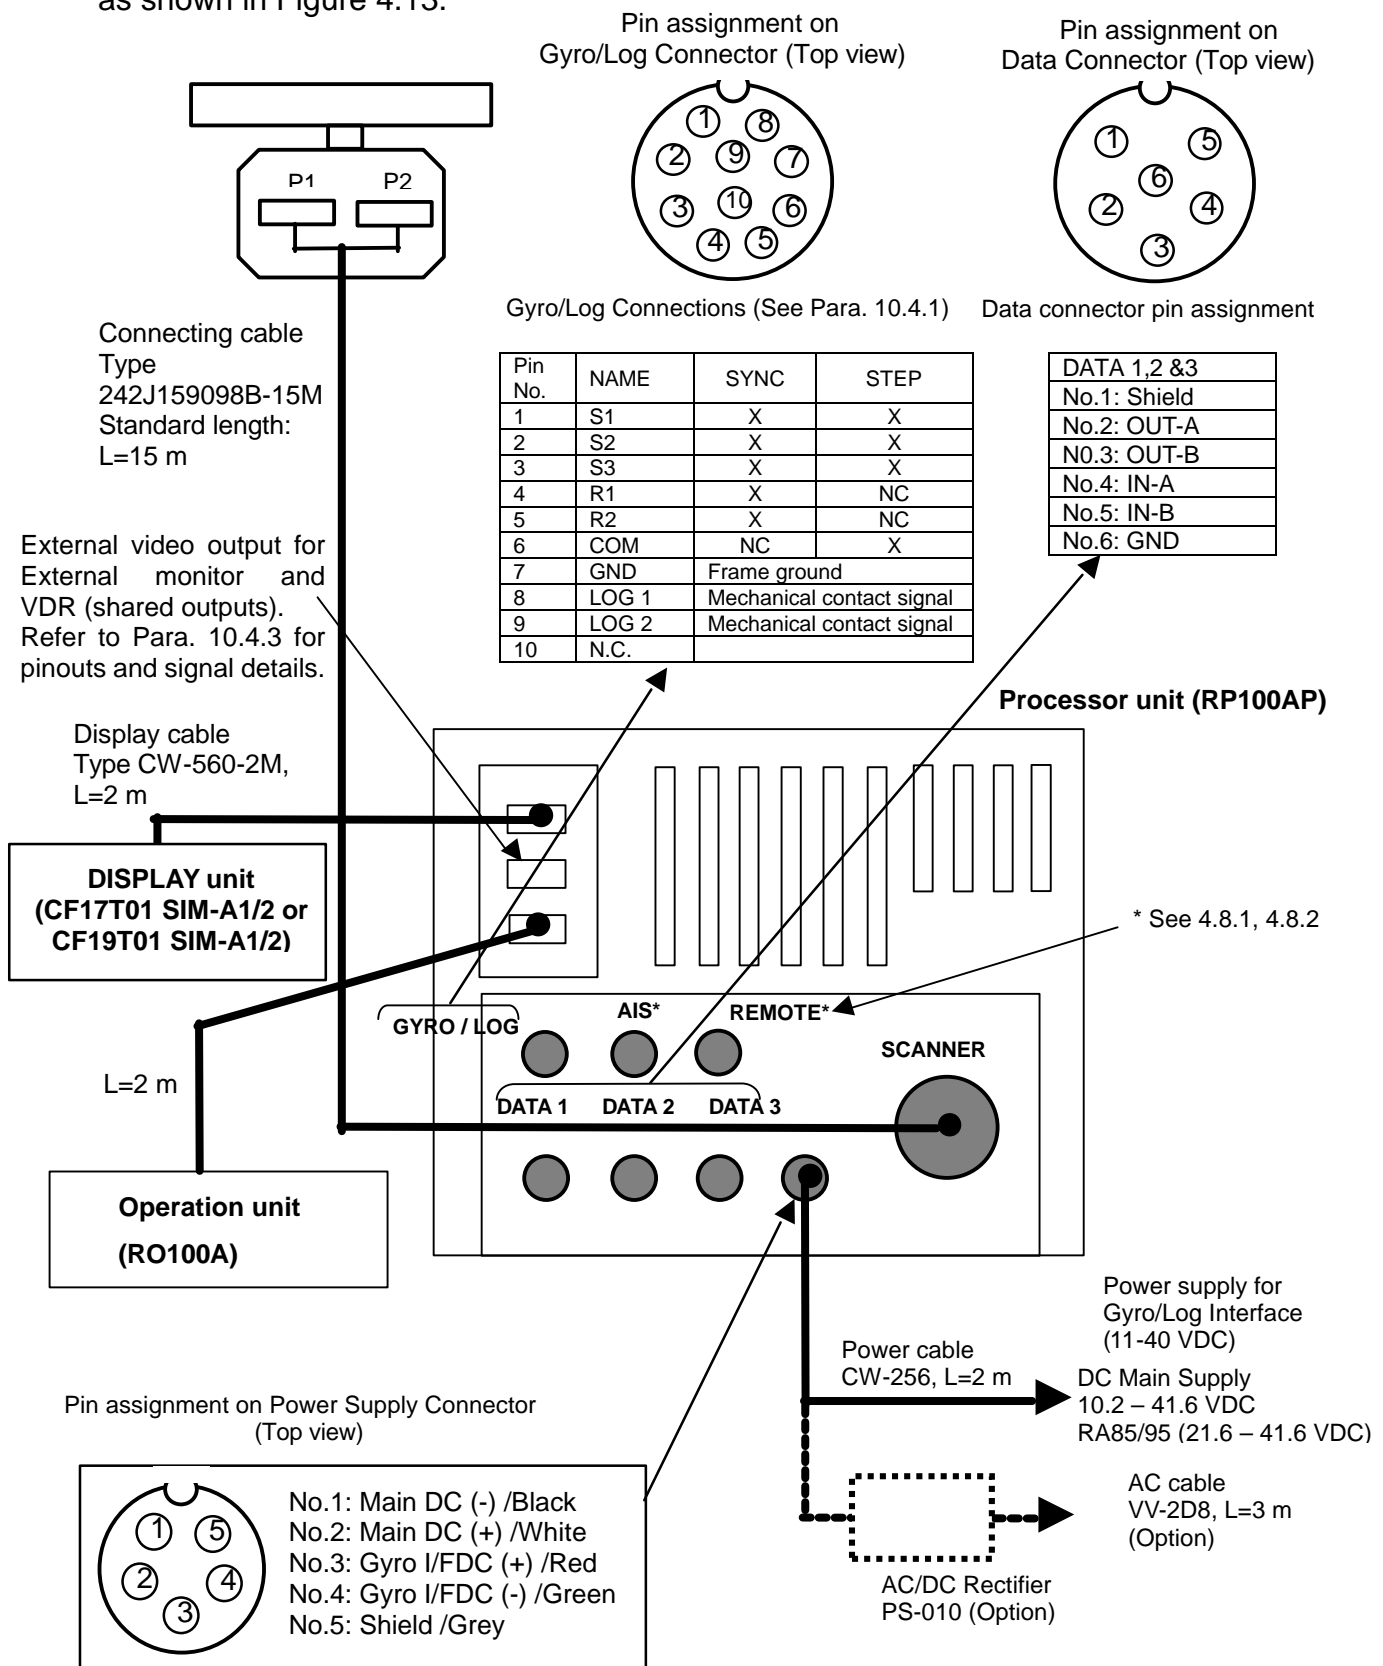

Figure 4.13 Cable connections to the Processor Unit
- (1) Remove the mounting bracket from the Operation unit.
- (2) Remove a screw cover, which is fitted on each corner of the Operation unit front face. (Refer to Figure 4.13)
Connect the antenna cable, power cable and the data cable to the designated sockets as shown in Figure 4.13.